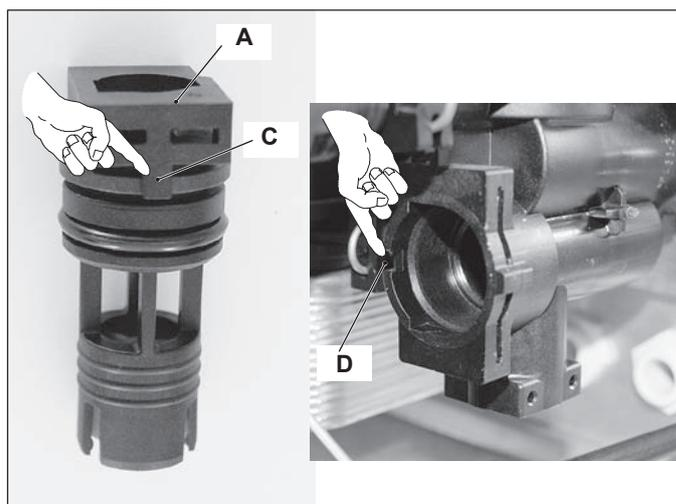

Figure 16.3
**Attention.** When reassembling the By-pass valve be sure that it is correctly oriented by matching the reference C with the notch D of the water group Figure 16.3